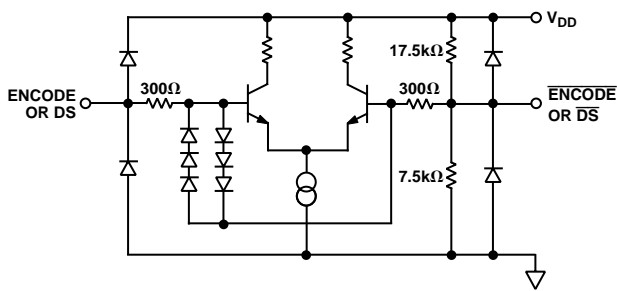

Figure 5. Equivalent ENCODE and Data Select Input Circuit
³t_V and t_{PD} are measured from the threshold crossing of the ENCODE input to valid TTL levels of the digital outputs. The output ac load during test is 5 pF (Refer to equivalent circuits Figures 5 and 6).
ENCODE and Data Select (DS) can be driven differentially or single-ended. For single-ended operation, the complement inputs ($\overline{\text{ENCODE}}$, DS) are internally biased to $V_{\text{DD}}/3$ (~1.5 V) by a high impedance on-chip resistor divider (Figure 5), but they may be externally driven to establish an alternate threshold if desired. A 0.1 μF decoupling capacitor to ground is sufficient to maintain a threshold appropriate for TTL or CMOS logic.
Note the 6-diode clock input protection circuitry in Figure 5. This limits the differential input voltage to $\sim \pm 2.1$ V. When the diodes turn on, current is limited by the 300 Ω series resistor. Exceeding 2.1 V across the differential inputs will have no impact on the performance of the converter, but be aware of the clock signal distortion that may be produced by the nonlinear impedance at the converter.